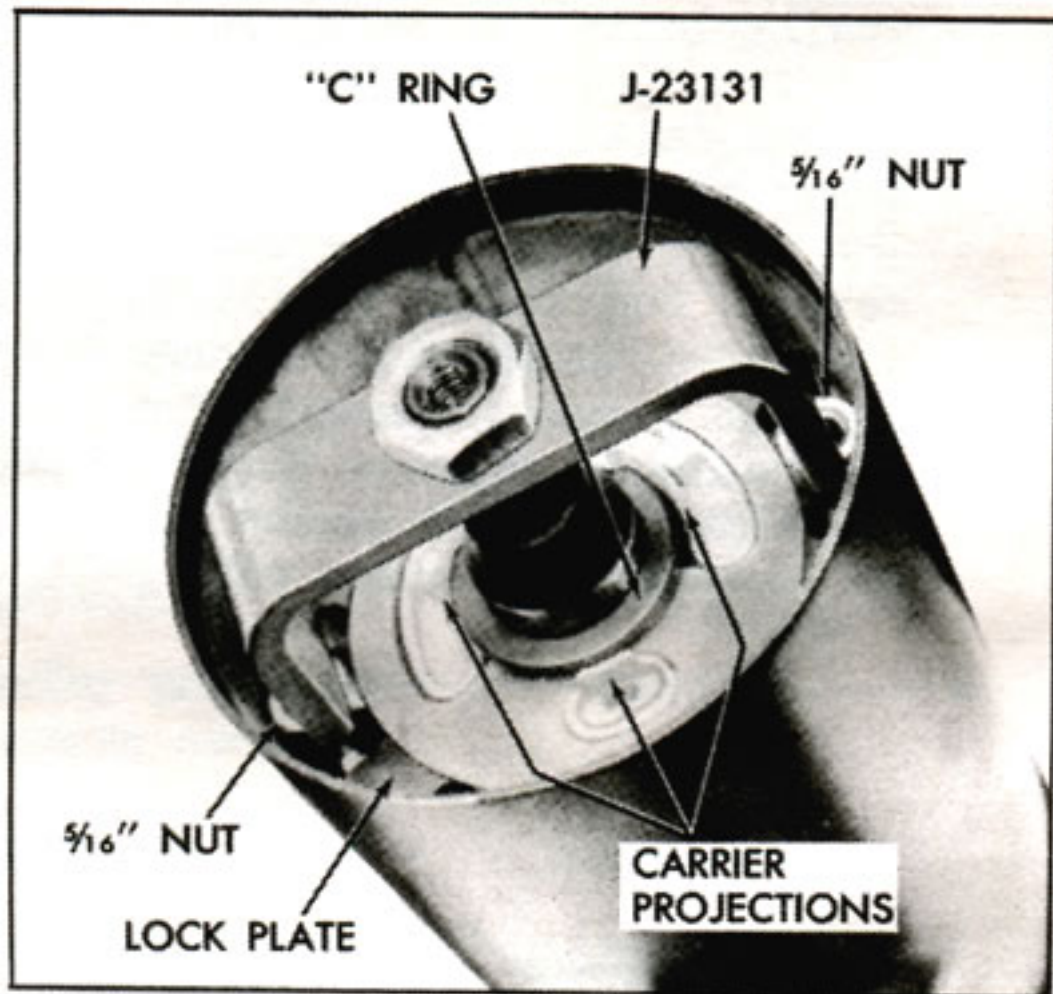

Fig. 8—Install Nut Under 'Legs'
2. Place a 5/16 inch nut under both 'legs' of the tool on each side of the lock plate as shown in Figure 8. Reinstall lock screw to prevent shaft from moving out of column.